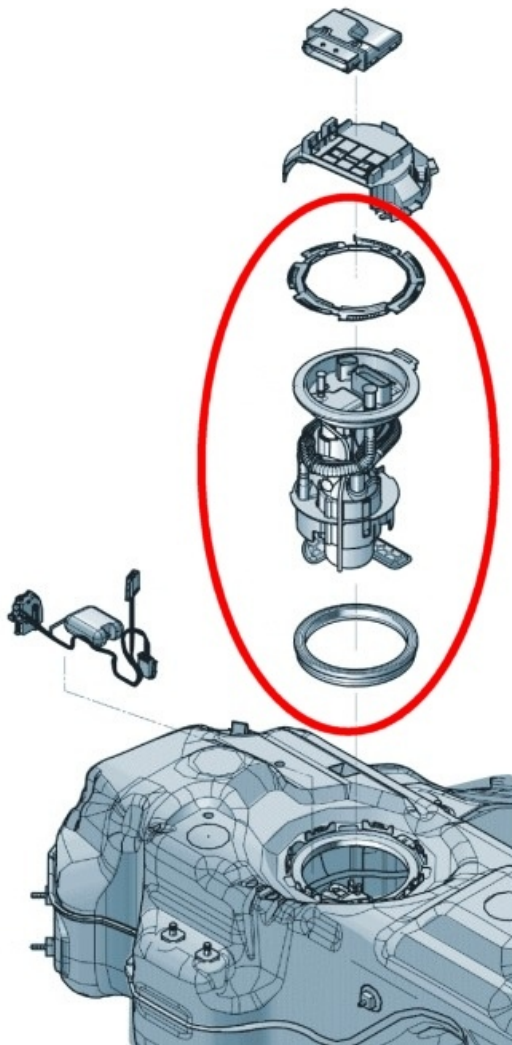

Figure 2
5) Should all the advised checks detailed in steps 1 to 4 be to specification – Replace the Fuel Delivery Module within the fuel tank (Figure 2) - Refer to Repair Group 20 Fuel supply, gas operation / 4.0L V8 TSI / Fuel pump, fuel level sensors, and jet pump (RH) – To remove and fit